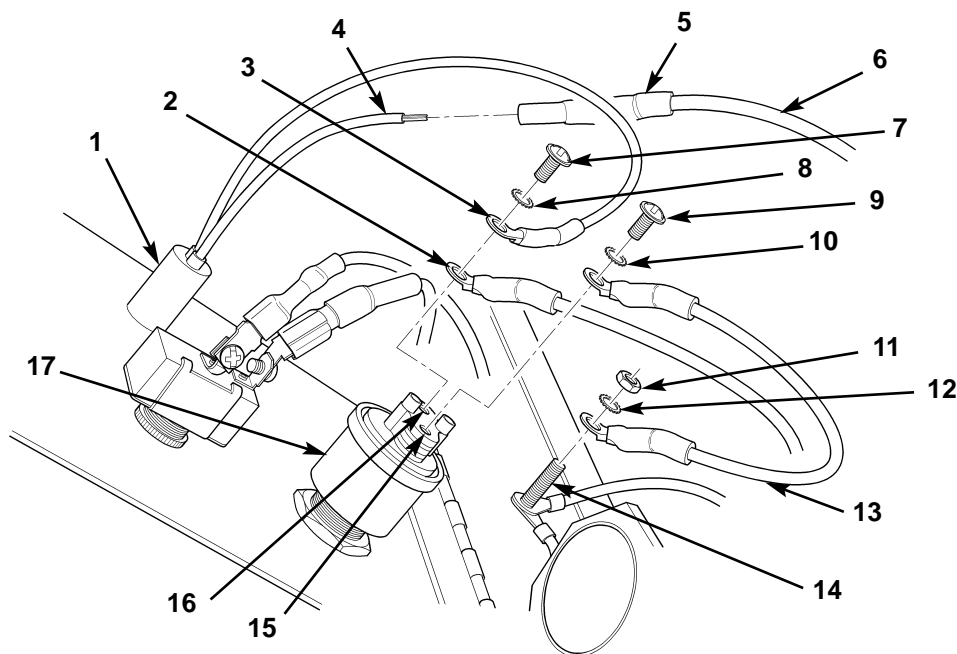

Figure 6. Disconnecting Harness Leads from ABS Warning Light and Test Switch.
9. Cut black wire (figure 6, item 4) from ABS warning light (figure 6, item 1) at wire connector (figure 6, item 5), and cut wire connector (figure 6, item 5) from blue wire (figure 6, item 6). Discard wire connector (figure 6, item 5).
10. Remove screw (figure 6, item 7), star washer (figure 6, item 8), black wire (figure 6, item 3), and blue wire (figure 6, item 2) from terminal (figure 6, item 16) on ABS test switch (figure 6, item 17).
11. Remove screw (figure 6, item 9), star washer (figure 6, item 10), and black ground wire (figure 6, item 13) from terminal (figure 6, item 15) on ABS test switch (figure 6, item 17).
12. Remove nut (figure 6, item 11), star washer (figure 6, item 12), and black ground wire (figure 6, item 13) from heater control box mounting stud (figure 6, item 14).